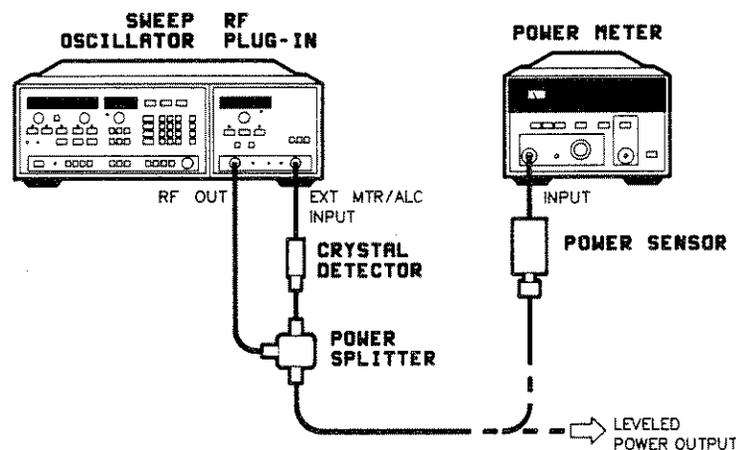

Figure 3-10. External Crystal Detector Leveling Setup
1. Connect the equipment as shown in figure 3-10. Turn the instruments on and let them warm up for at least 30 minutes.
To use leveled RF output power to test external equipment, make the connection at the point marked **LEVELED POWER OUTPUT** in figure 3-10.